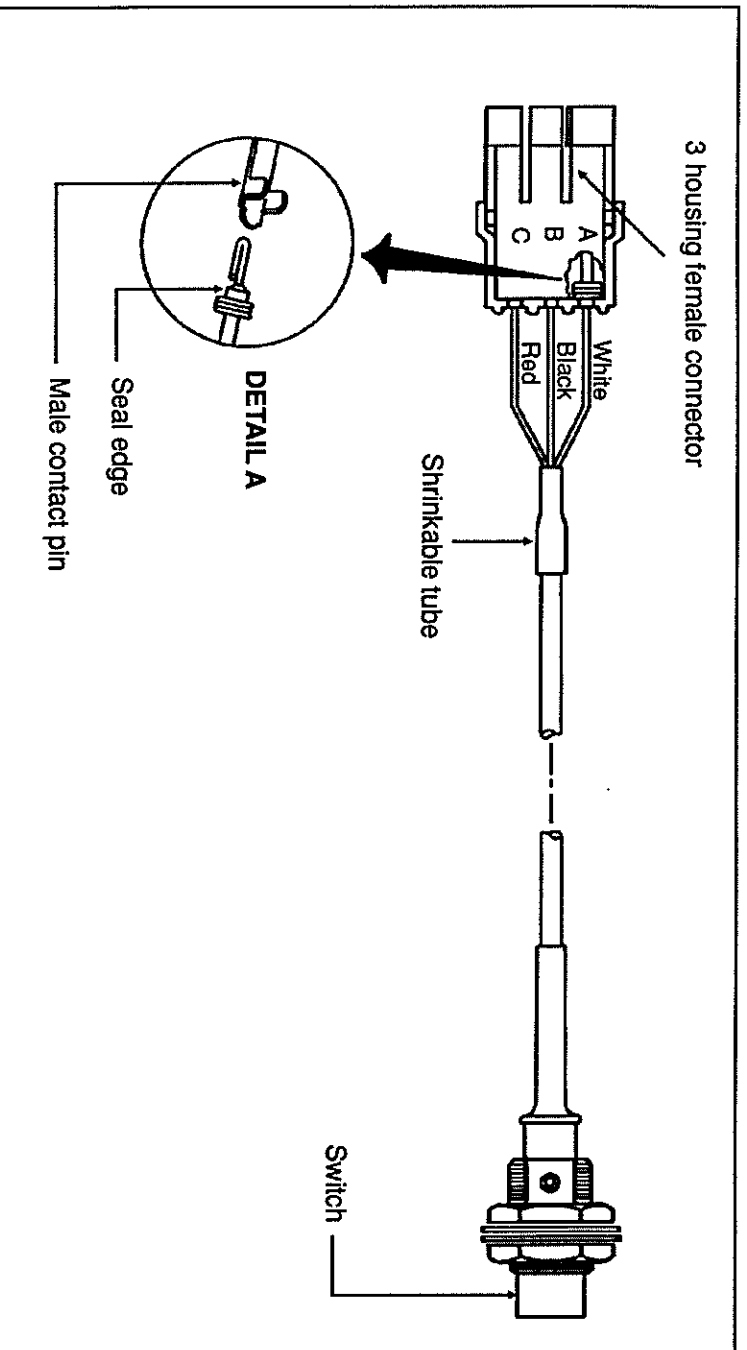

Figure 3 - Assembly of the new switch
7. Slide shrinkable tube #06-2490 to the junction of the wires disconnected from switch #56-2130, then heat as required (see fig. 3).
8. Insert seal #56-1565 in the correct position on each wire (see detail A in fig. 3).
20. Insert the contact pins in their appropriate hole of the 3 pin male connector #56-1782 according to wire color and the letter code on connector (see fig. 3).